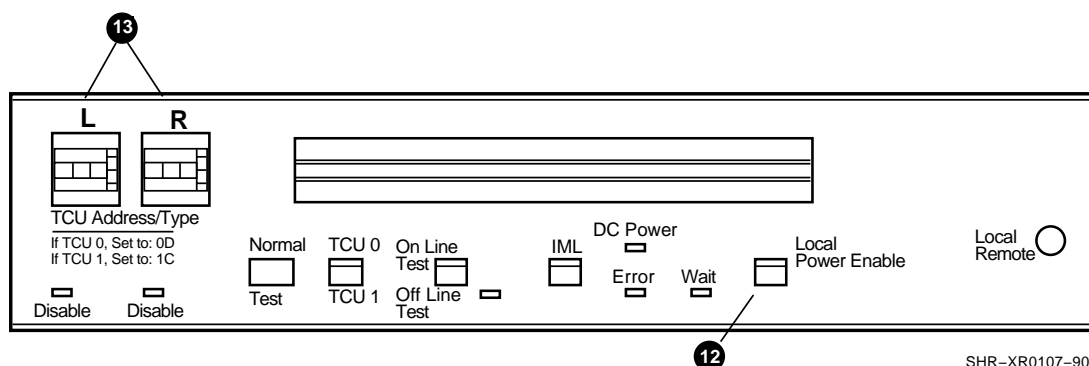

Figure 2-12 TCU Address Switches and Local Power Enable Pushbutton
The Local Power Enable pushbutton ⑫ resets the ac power supply to permit power to be applied to the tape control unit (Figure 2-12). The Unit Emergency Power switch must be in the Power Enable position.
If one of these switches is moved accidentally while the tape control unit is operating, the jobs that are running are not affected (Figure 2-12). **However, do not leave the switch in the incorrect position.** Return the switch to the original position as indicated by the label. If the switch is not returned to the original position, unpredictable results could occur.